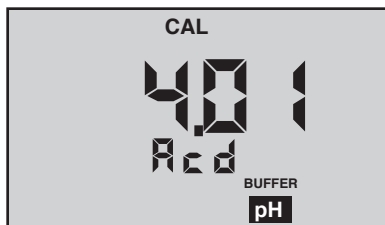

Figure 7
2. At this point the “**CAL**”, “**BUFFER**” and “**Acd**” or “**bAS**” annunciators will be displayed (see Figures 7 and 8).